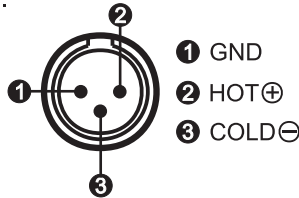

Fig. 3
- (A) Using audio output cables with “XLR” or “Cannon” type connectors, connect one end to the balanced output jacks **14**, of the receiver, and the other end to the “MIC IN” input jack of the mixer or amplifier. The configuration of the 3-pin connector is as shown in Fig. 3.
- (B) Using audio output cable attached with “6.3mm Phone Jack” type, connect one end from the unbalanced output jack **9** **13**, of the receiver, and the other end to the “LINE-IN” input jack of the mixer or amplifier.
- (C) For mixed output, switch Balanced & Unbalanced Mixed Switch **11** to MIX.
- (D) Guitar Amplifier Connection: Plug a 6.3 Ø both end cable, one end to Unbalanced B 6.3 Ø Audio Output Jack of receiver and one end to input socket of electric guitar amplifier. Adjust “Level Switch” of receiver to “+10dB” position.